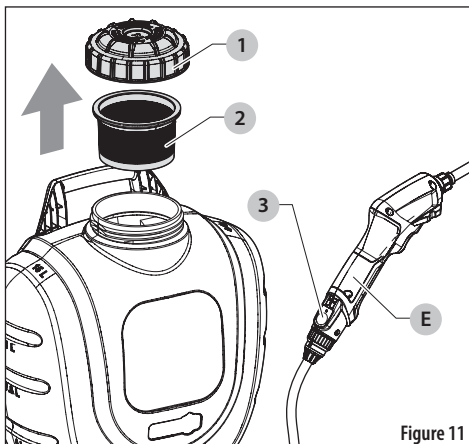

Figure 11
1. Ensure the power wand sprayer (E) is OFF and remove the power wand sprayer. See Figure 11.
2. Remove the cap (1) and the filter basket (2) and empty any extra chemical from the tank into a suitable container for later use or dispose according to the chemical manufacturer's instructions.
- Reinstall the hose and power wand sprayer (E) and press the power button (3) to turn the sprayer ON.
- Once the sprayer is dried, turn the sprayer upright and reinstall the cap (1) and filter basket (2) to prevent debris from entering the tank.